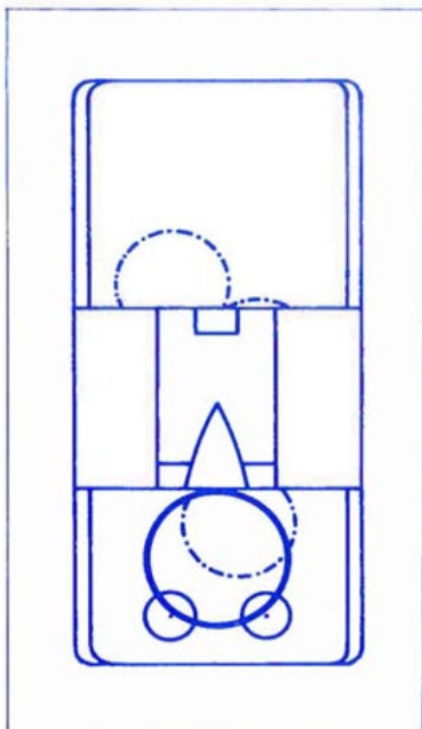
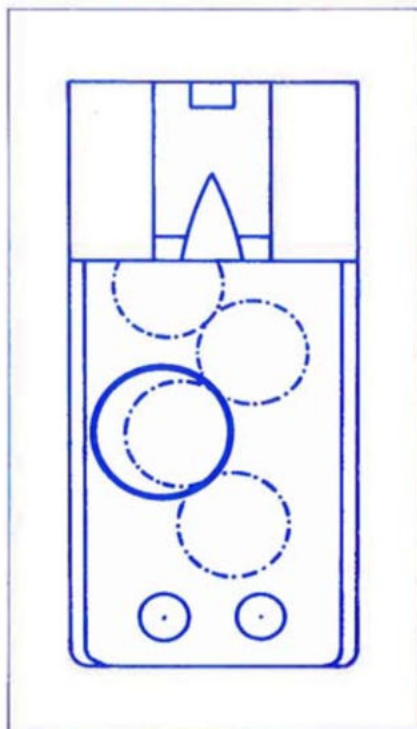
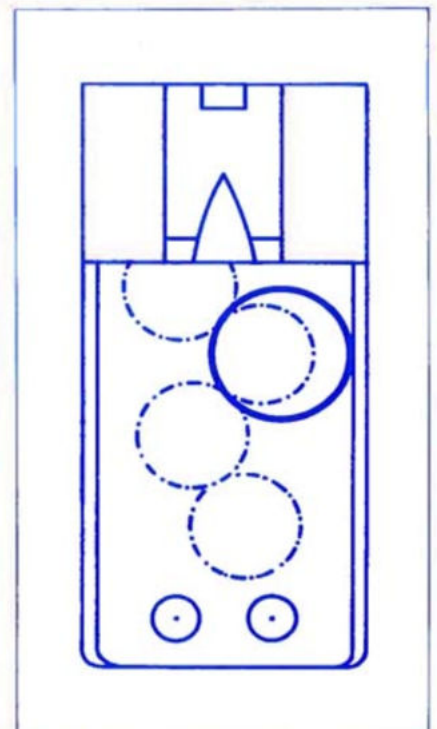

Fig. 2.3
Fig. 2.4
Fig. 2.5
- Place the watch upon the pick-up, claws closed (acoustic picking up, at the level of the quartz oscillator), see fig. 2.3
- press *key 1*
- Place the watch (with the display on the picking-up side) upon the pick-up, claws open (capacitive picking up, at the level of the display), see fig. 2.4
- Place the watch upon the pick-up, claws open (inductive picking up, at the level of the stepping motor), see fig. 2.5
- press *key 2*
- set the measuring time by means of the adequate plate (13)
- Place the watch upon the pick-up, claws open (inductive picking up, at the level of the tuning fork), see fig. 2.5
- press *key 3* (key 2 for any tuning-fork frequency that is not divisible by 3)
- Place the watch upon the pick-up, claws closed (acoustic picking up, at the level of the escapement), see fig. 2.3
- press *key 4*